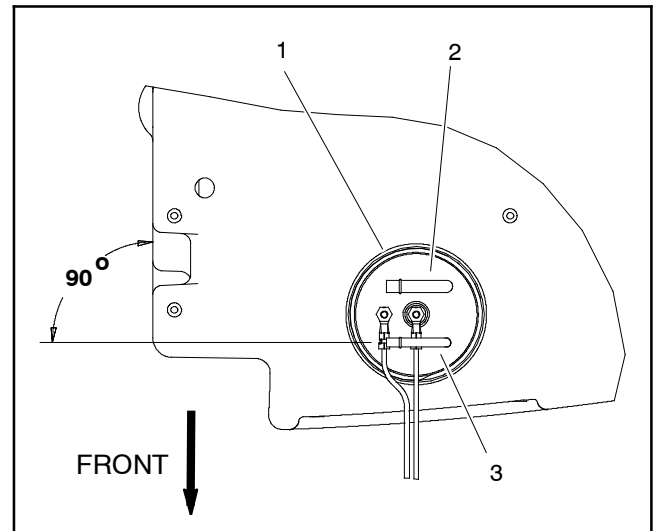

Figure 7
IMPORTANT: If fuel sender is removed from fuel tank, note orientation of fittings for assembly purposes (Fig. 7).
A. If fuel sender was removed from fuel tank, make sure that fuel fittings on sender are orientated at 90° from right side of tank as shown in Figure 7. Also, to prevent damage to fuel sender during assembly, make sure that fuel sender does not turn as sender cap is tightened.
2. Correctly connect supply (item 7) and return (item 9) fuel hoses to fittings on the top of the fuel sender. Secure fuel hoses with hose clamps.